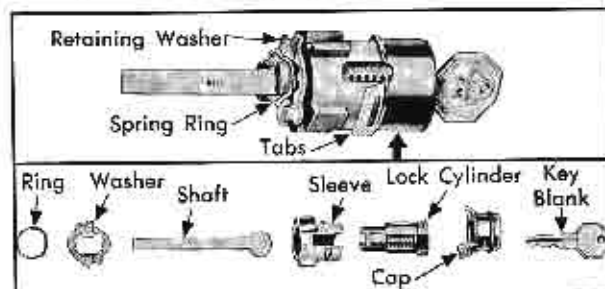

Fig. 3-24 Door Lock Cylinder Assembly
2. Cut retaining washer, Fig. 3-24, with snips and remove push button shaft.
2. Obtain new retaining washer and spring ring Fig. 3-24.